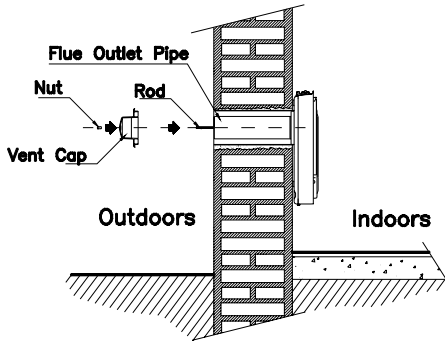

Fig. 12
- From the outside, insert the vent cap in the vent air intake pipe, verifying that the rod passes through the central orifice of the vent cap. (Fig. 12). Place the nut in the rod and screw it. Thus, the venting system will be firmly attached to the heater.